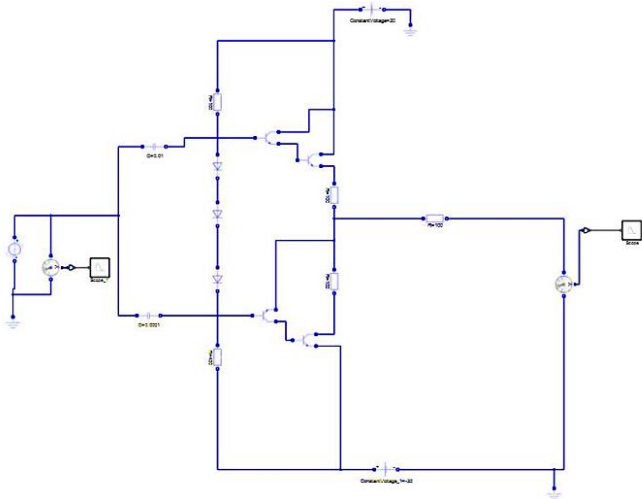

Figure 3: Push-pull amplifier using Darlington pair
- Imitate the Push-pull amplifier circuit utilizing the Darlington and feedback pair in multisim as shown below in figure 3 and 4 respectively in order to observe their characteristics.